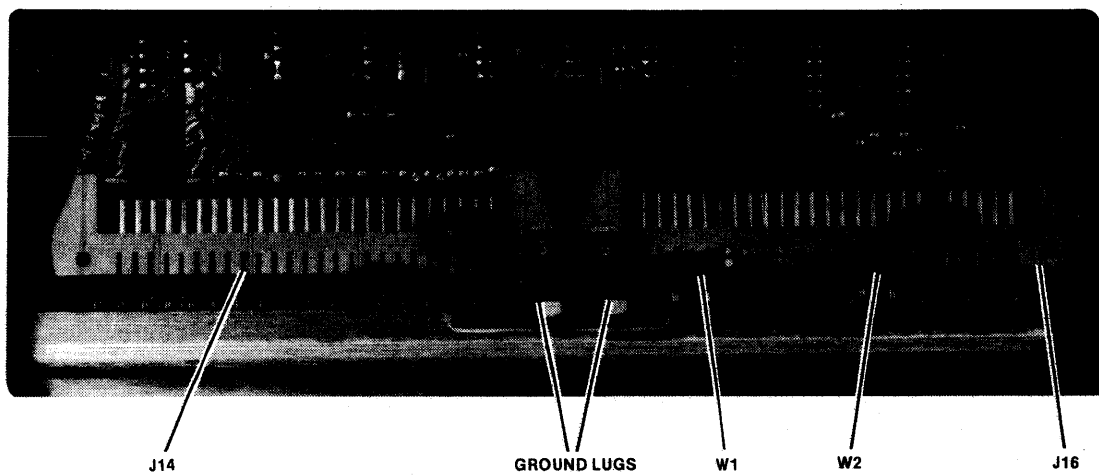

Figure 5-4. Mainframe Cable Port Details
- i. Refer to figure 5-4 and remove jumpers W1 and W2 from underneath connector J16 (accessible through mainframe cable port). Save port covers and jumpers in case expansion chassis is disconnected from mainframe in future.
- q. Refer to figure 5-4 and remove jumpers W1 and W2 from underneath connector J16 (accessible through mainframe cable port). Save port covers and jumpers in case expansion chassis is disconnected from mainframe in future.